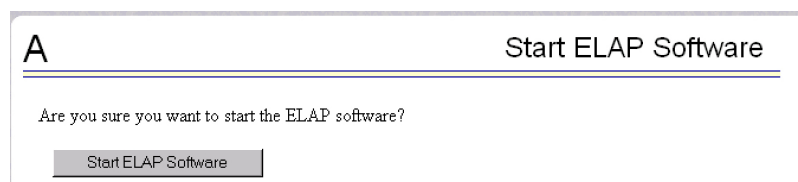

Figure 48: Start ELAP Software
- From the **Start ELAP Software** screen, make sure the check boxes are checked as shown in Figure 48: Start ELAP Software: